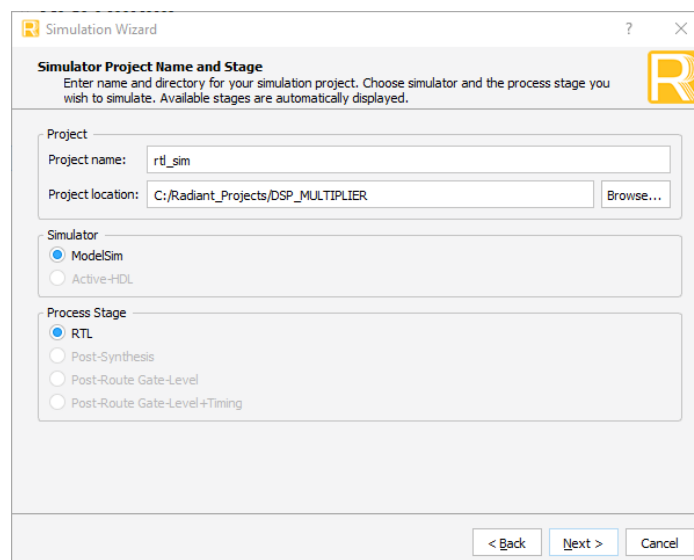

Figure 3.3. Simulation Wizard
- Click the  button located on the **Toolbar** to initiate the **Simulation Wizard** shown in Figure 3.3. The **Simulation Wizard** window appears. Click **Next**. You are prompted to select the working folder and the test bench name. Enter project name for simulation in this case **rtl_sim**.